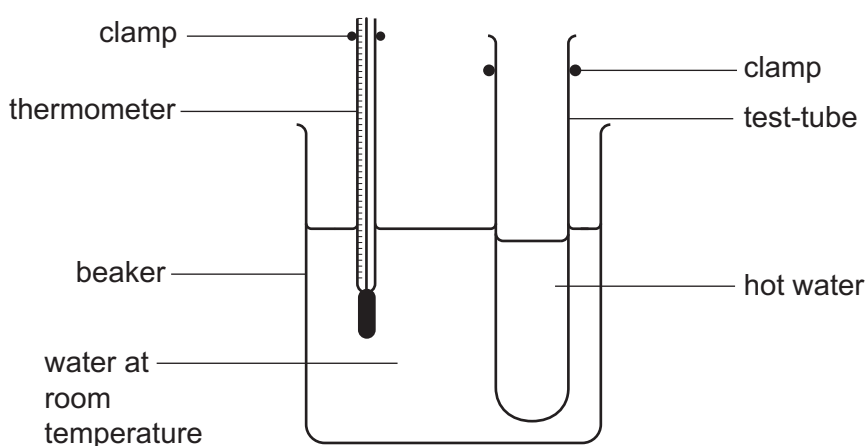

Fig. 4.1
- Approximately half-fill the test-tube with **hot** water as shown in Fig. 4.1.